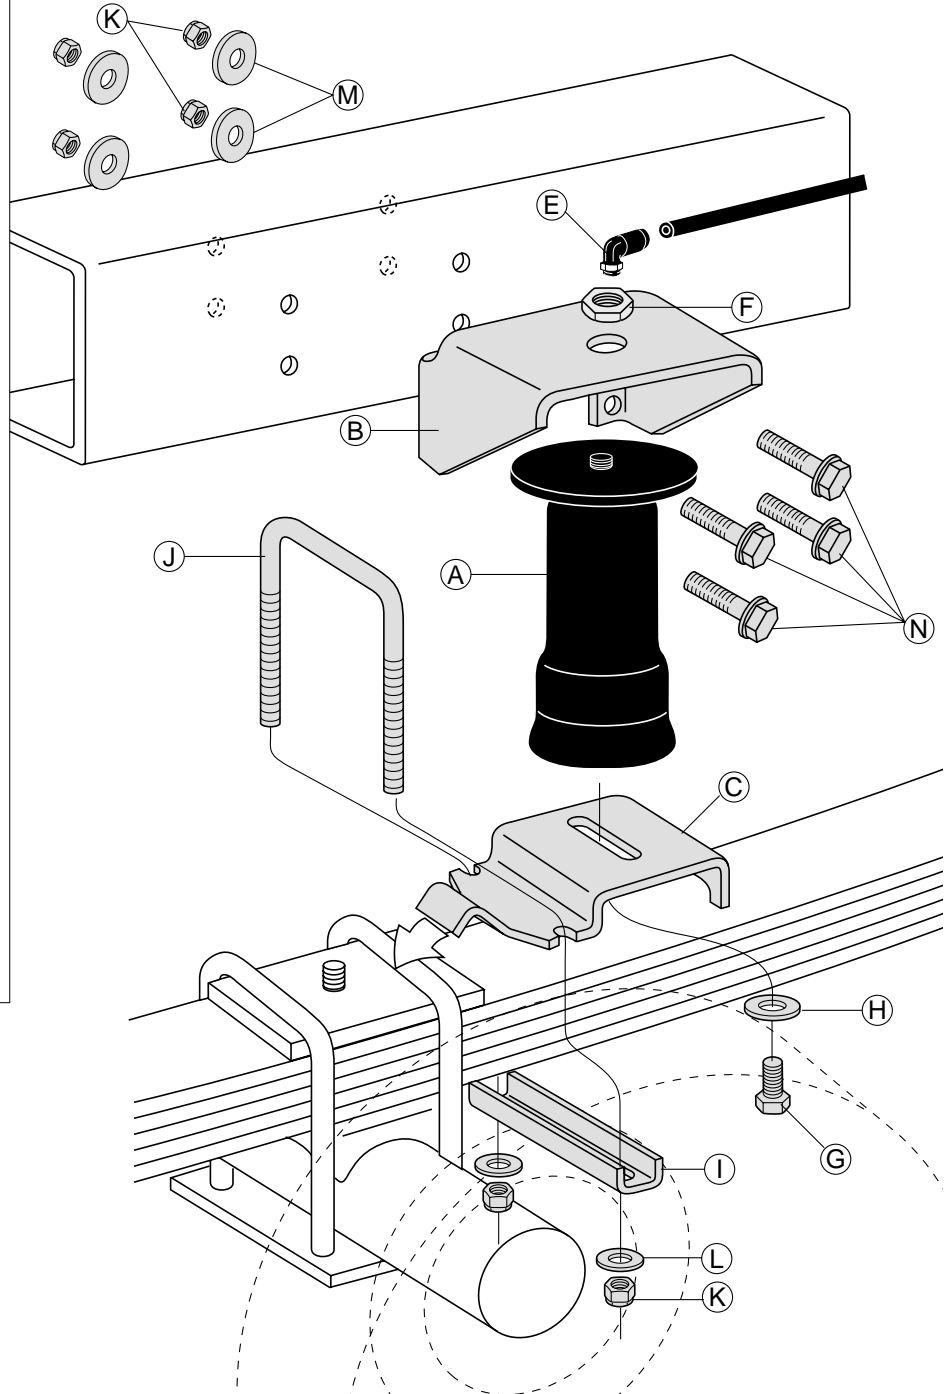
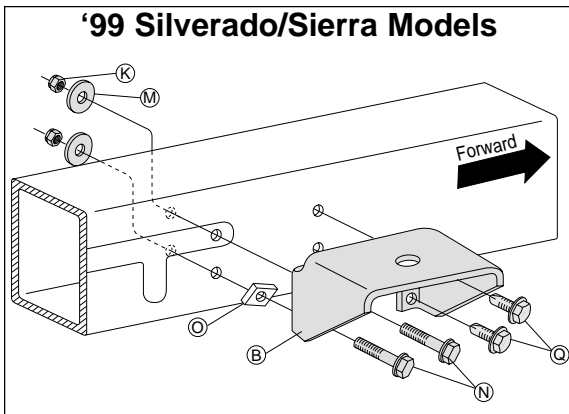
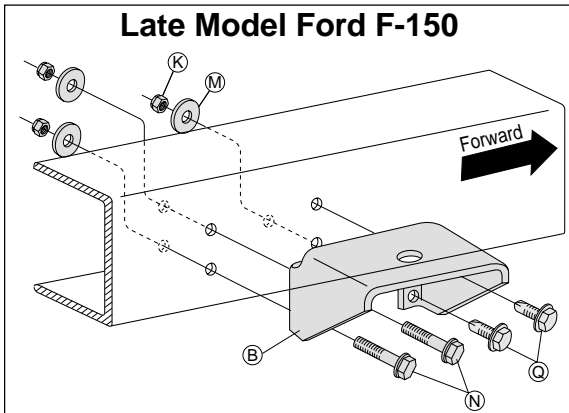

Figure 1
Figure 12
Figure 13
(* not shown in Figure 1)
3. Loosely install a washer head frame bolt (N), large flat washer (M), and nylock nut (K). Refer to Figure 1.
- a. **'99 Silverado/Sierra:** Insert the square spacer (O) between the upper bracket and frame rail (Figure 12). Loosely attach with frame bolt (N), large washer (M), and nylock nut (K).
- c. **Dodge and early Ford pickups:** Many Dodge and Ford pickup chassis have an indent in the frame rail. Use spacers provided behind the mounting holes in the upper bracket that fall into this indented area. Use two round spacers (P) for Dodges and one square spacer (O) for Fords per side.
- d. **Late model Ford F-150:** Some models have a shock reinforcement on the passenger side that boxes in the frame. The forward holes will fall behind this boxed in section. The frame bolts (N), large flat washers (M), and nylock nuts (K) can still be used in all mounting hole locations, however, it will be easier to use a self-tapping frame bolt (Q) in the forward upper hole location (Figure 13).
- c. **Dodge Dakota:** The forward bottom hole will have to be drilled through the jounce bumper bracket and the frame. A spacer (P) is provided for the upper forward hole to compensate for the thickness of the jounce bumper bracket.
6. Replace the upper bracket to the mounting location and secure at the forward, lower mounting hole using washer head frame bolt (N), large flat washer (M), and nylock nut (K) as shown in Figure 1, except in '99 Silverados/Sierras (Figure 12) or late model Ford F-150s (per step 3D - Figure 13) use a self-tapping frame bolt (Q). Tighten securely.